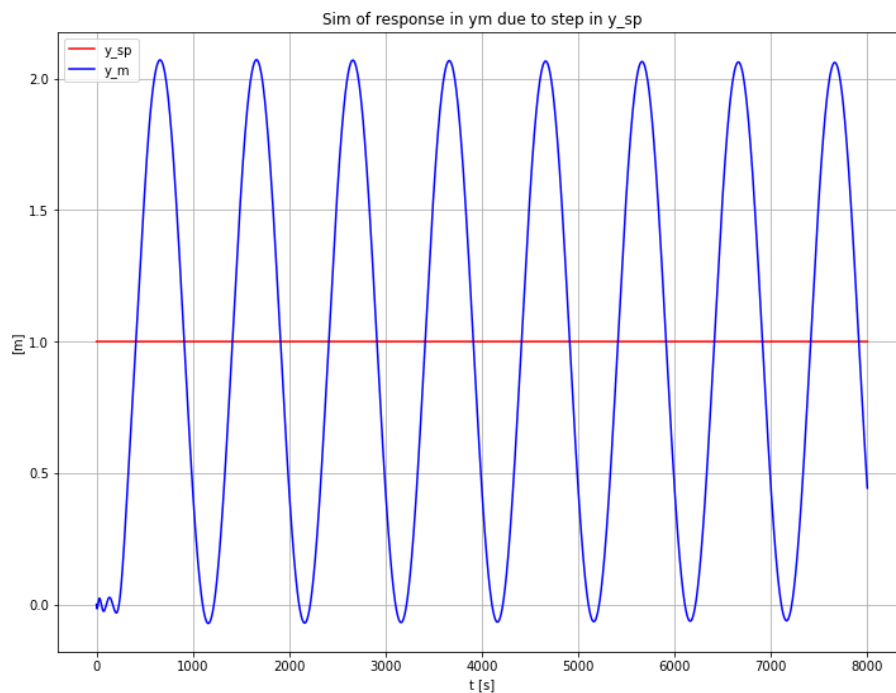

Figure 10
- b) (7.5 %) By trial and error,  $K_{cu}$  is found as 6.1. The corresponding  $P_u$  is read of from the simulated response as  $P_u = 1000 \text{ s}$ , see Figure 10.